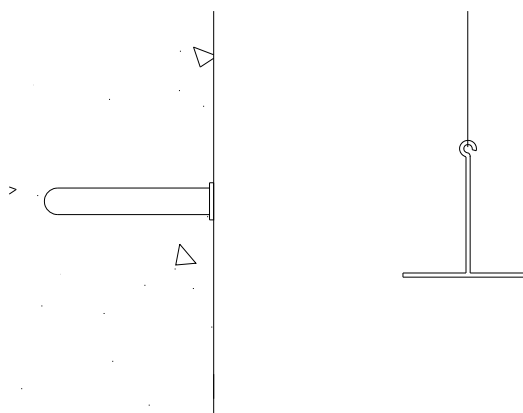

Figure 2
STEP 4. Select the plugs and insert a plug into each anchor hole drilled in Step 3 (Figure 2).